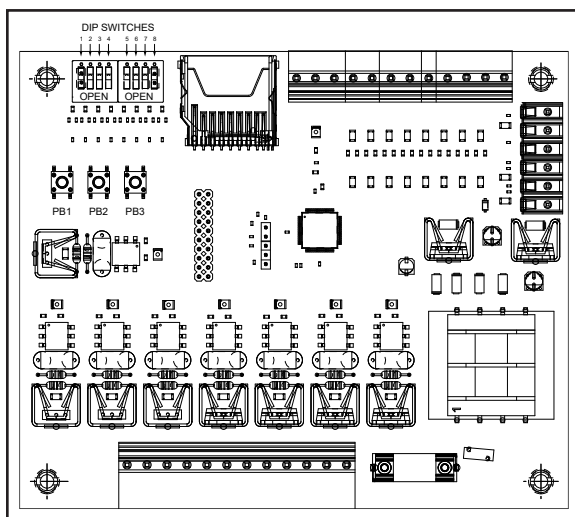
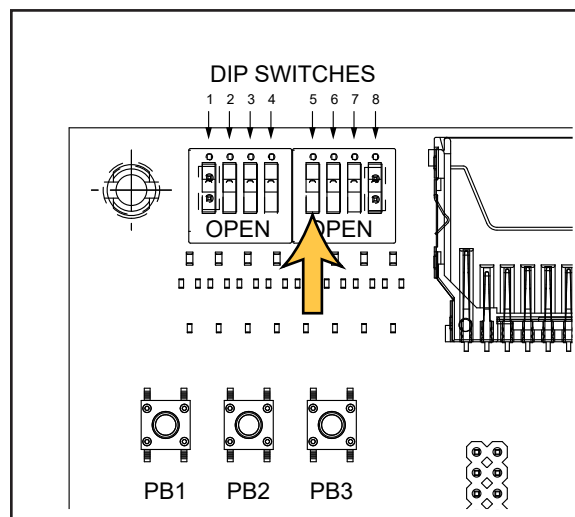
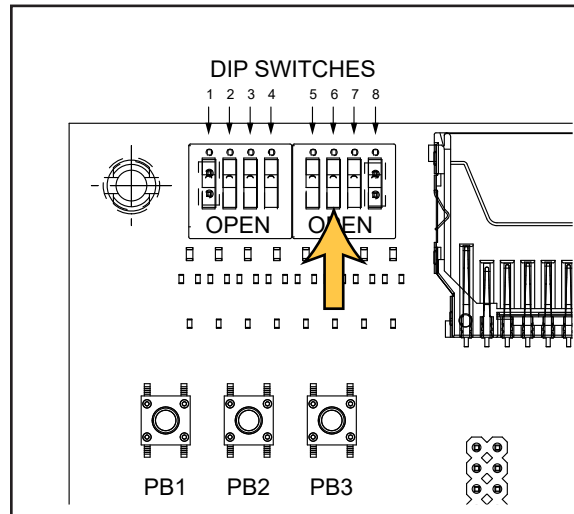

Fig. 28 - Circuit Board
Fig. 29 - Circuit Board Dip Switch 5
Fig. 31 - Circuit Board Dip Switch 6
1. Toggle Dip Switch 5 to the closed position on the circuit board to change the screen display language to French (see Fig. 28 and Fig. 29).
1. Toggle Dip Switch 6 to the closed position on the circuit board to change the screen display temperature to Celsius °C (see Fig. 28 and Fig. 31).